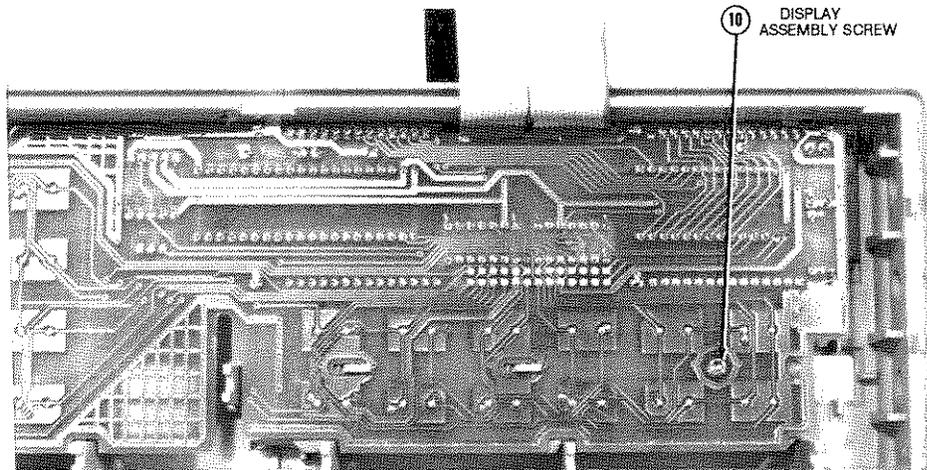

Figure 3-20. Remove/Install Display Screw
14. Refer to Figure 3-20. Use the #TX10 Torx driver to remove the single Torx screw from the Display assembly.
3. Refer to Figure 3-20. Use the #TX10 Torx driver to install the screw on the Display assembly.